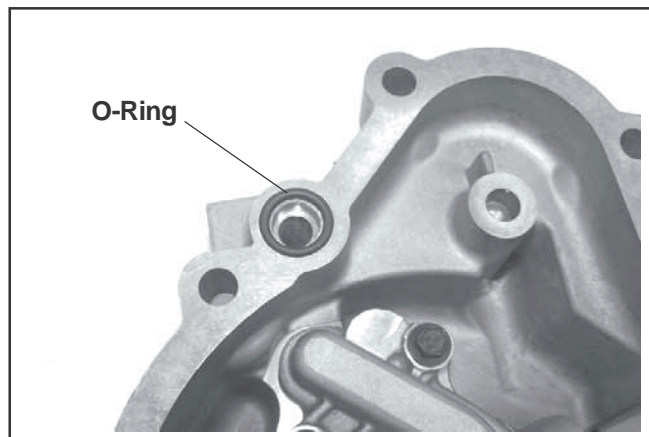

Figure 10-27. O-Ring Installed.
1. Make sure the sealing surfaces of the closure plate and crankcase are clean, dry, and free of any nicks or burrs. Install a new O-Ring in the closure plate. See Figure 10-27.